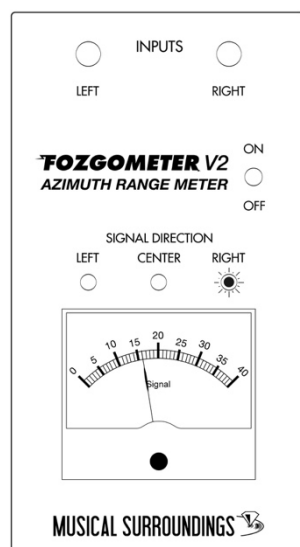

Figure 5, Right 16
3. Play Track 3 on Test LP, the right signal indicator should light. Observe the reading as seen in figure 5.